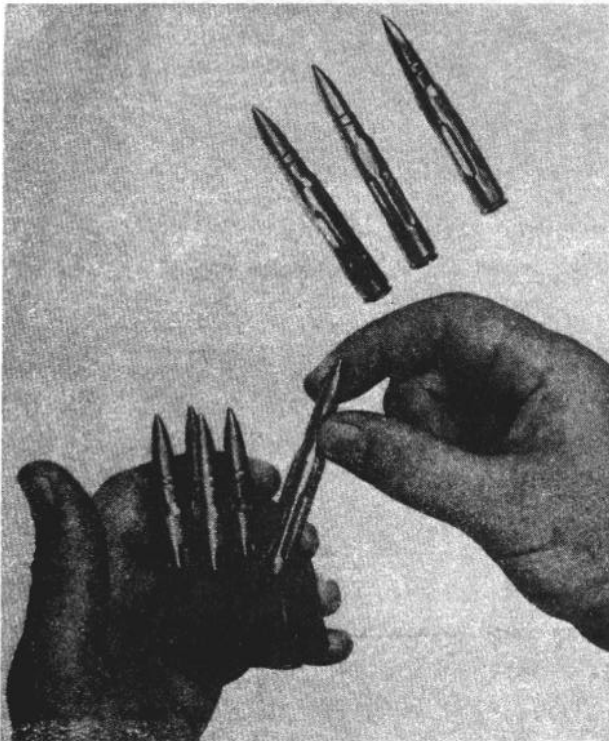

Figure 23. Loading rounds into a clip.
a. Insert eight rounds into the clip, holding the clip and rounds in the manner shown in figure 23. Start placing the rounds in from the lower left of the clip and make sure that each round is against the rear wall so that the inner rib of the clip engages the extracting groove of each round. The top round will then be on the right, making the clip easier for a right handed firer to load in the rifle. For the same reason, clips are loaded this way at arsenals.